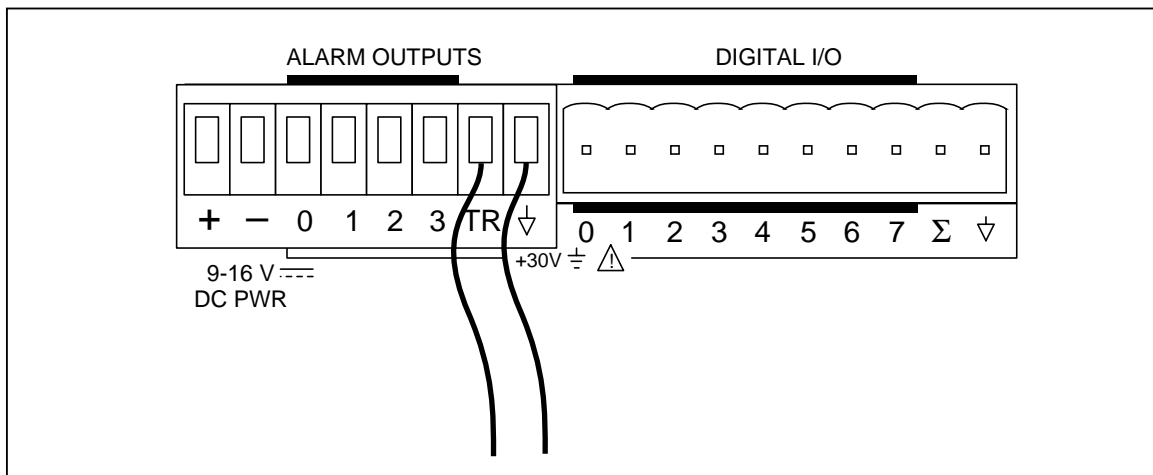

Figure 4-4. External Trigger Test
2. Remove the eight-terminal Alarm Output connector from the rear of Hydra and all external connections to it. Connect short wires (to be used as test leads) to the \perp and TR terminals. Leave other ends of wires unconnected at this time. Reinstall the connector. Refer to Figure 4-4.